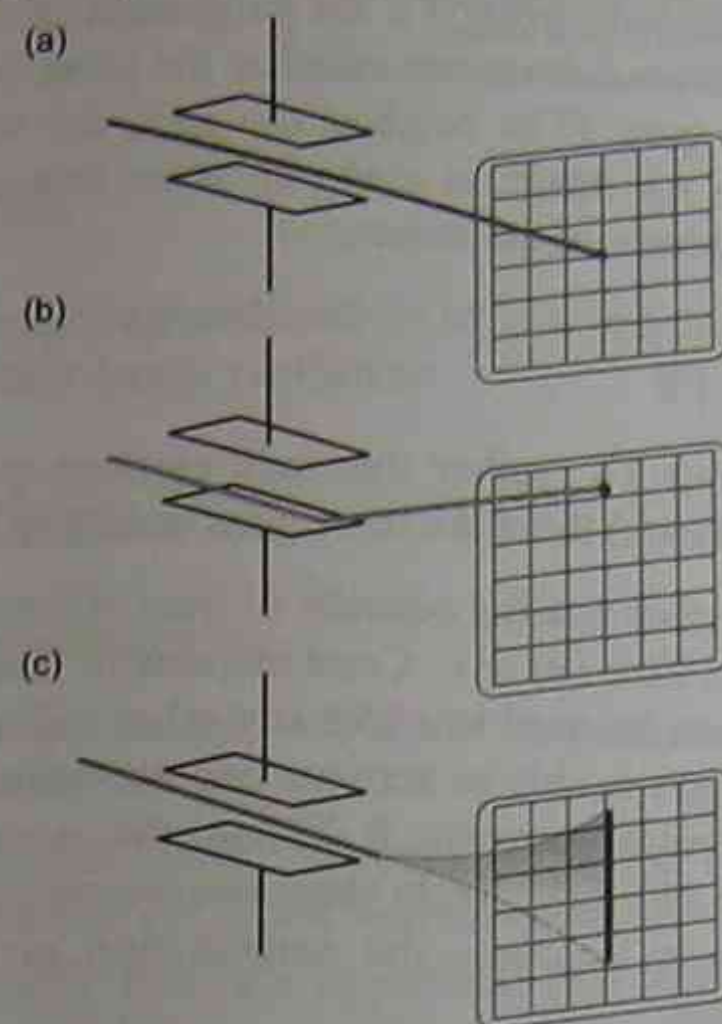

Figure 3.12 Vertical deflection
Consider Figure 3.12(a), which shows the effect of the electron beam with no voltage between both sets of plates. If the plates are given a steady voltage such that the top plate is positive, the electron beam is deflected upwards (Figure 3.12(b)). The greater the voltage, the greater is the deflection. Similarly, the beam would deflect downwards if the top plate were to be made negative.
It follows that if the top plate were to be made alternatively positive and negative, the beam would move up and down (Figure 3.12(c)). This is what an alternating (AC) voltage would do, with the spot moving up and down at the frequency of the voltage. For 50 Hz AC, the spot would move up and down 50 times per second, so fast that it would appear as a steady vertical line.